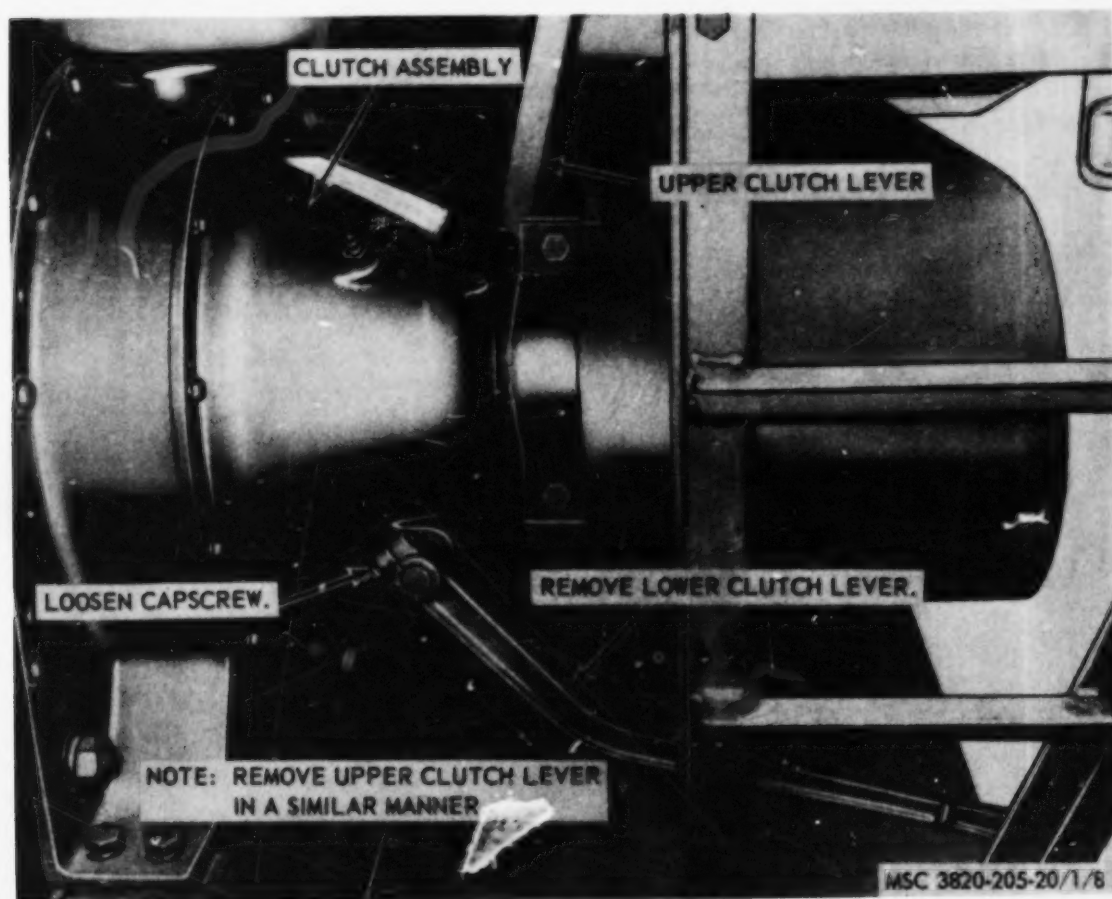

Figure 8. Engine clutch levers, removal and installation.
a. Removal. Remove the two engine clutch levers from the clutch as instructed on figure 8.
c. Installation. Install the two engine clutch levers on the clutch in reverse of the instructions on figure 8.